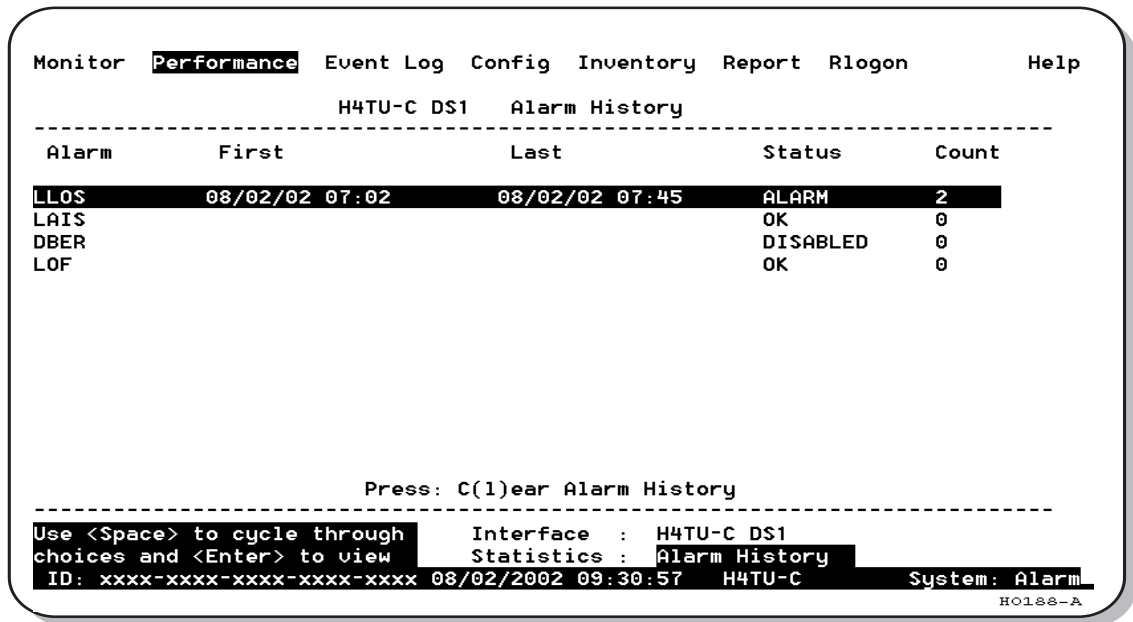
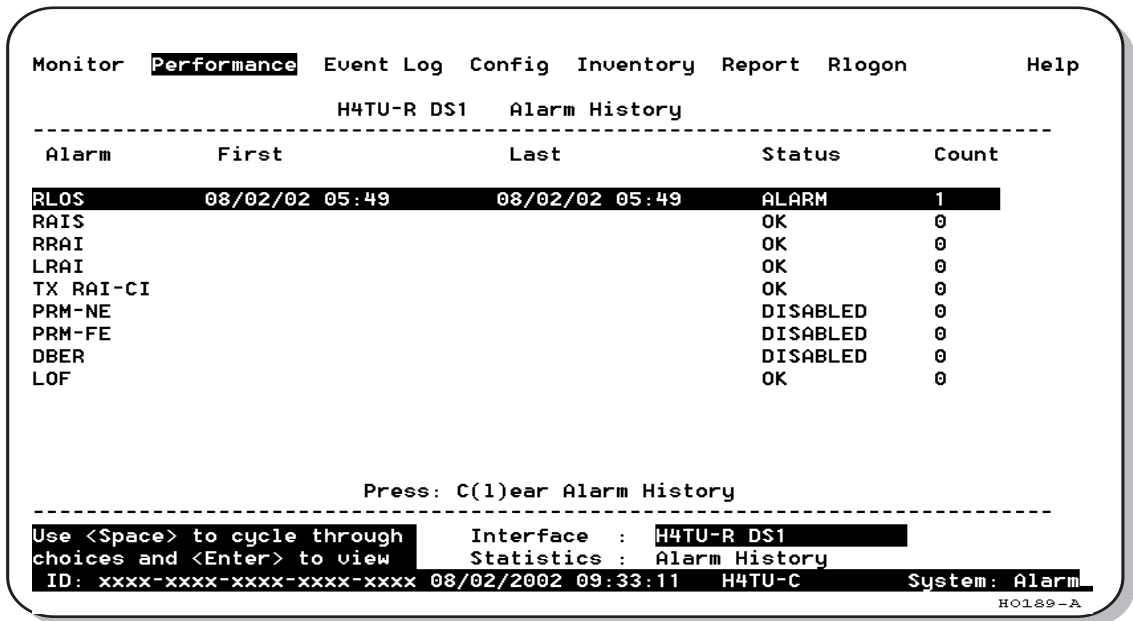

Figure 21. H4TU-C DS1 Alarm History Screen
Figure 22. H4TU-R DS1 Alarm History Screen
- Alarm statistics for the DS1 interfaces (Figure 21 on page 31 and Figure 22 on page 31) or HDSL4 interfaces (Figure 23 on page 33) on a continuous basis.
The Alarm History screen reports on a continuous basis the DS1 statistics for the H4TU-C (Figure 21 on page 31) and the H4TU-R (Figure 22 on page 31). The types of alarms reported are described in Table 10 on page 30. Current alarms are shown in reverse video.
H4TU-C DS1 Alarms (see Figure 21 on page 31)
H4TU-R DS1 Alarms (see Figure 22 on page 31)